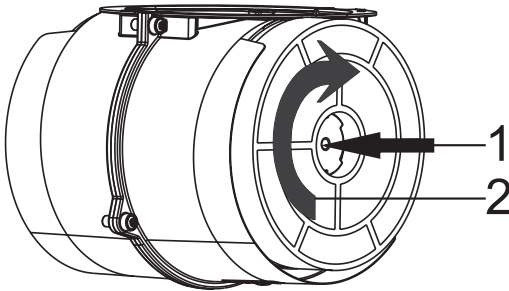

Fig. 4: CARBON FILTER
1. Place the carbon filter in its housing. Fig. 4
2. Rotating the carbon filter clockwise, ensure that it is completely fit. Fig. 4